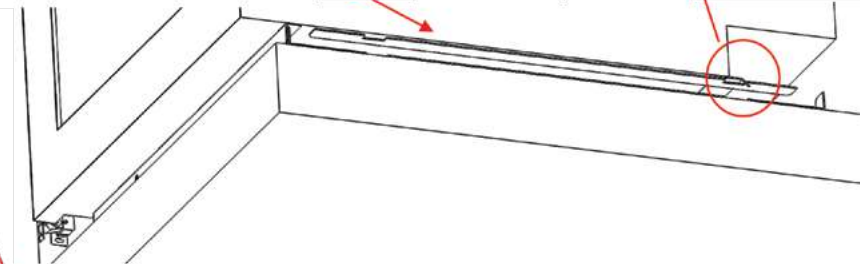

Figure 11
6. Use the two #3 screws to fasten the front bracket to the front of both support beams (see *Figure 11*). The microwave should now be firmly secured inside the cabinet cutout (see *Figure 12*).